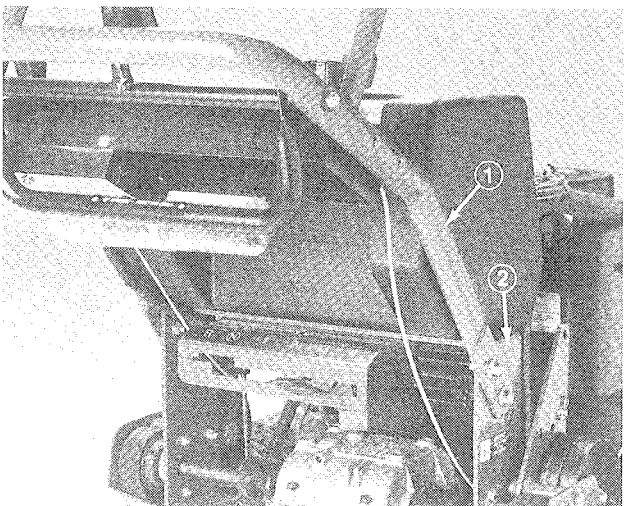

Figure 4
1. Align upper handle mounting holes with desired mounting holes in frame and secure each side with (2) 3/8-16 x 1" lg. flange capscREWS and flangenuts (Fig. 4).